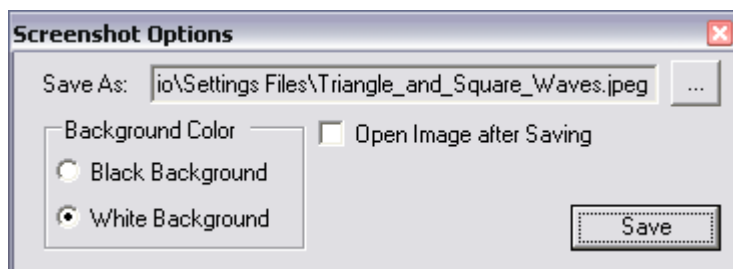

Figure 2.8: Screenshot Options
12) A window with screenshot options will pop up to allow the directory to be changed as well as the background color (black or white) to be chosen. Click “Save” when finished, shown in Figure 2.8 below.